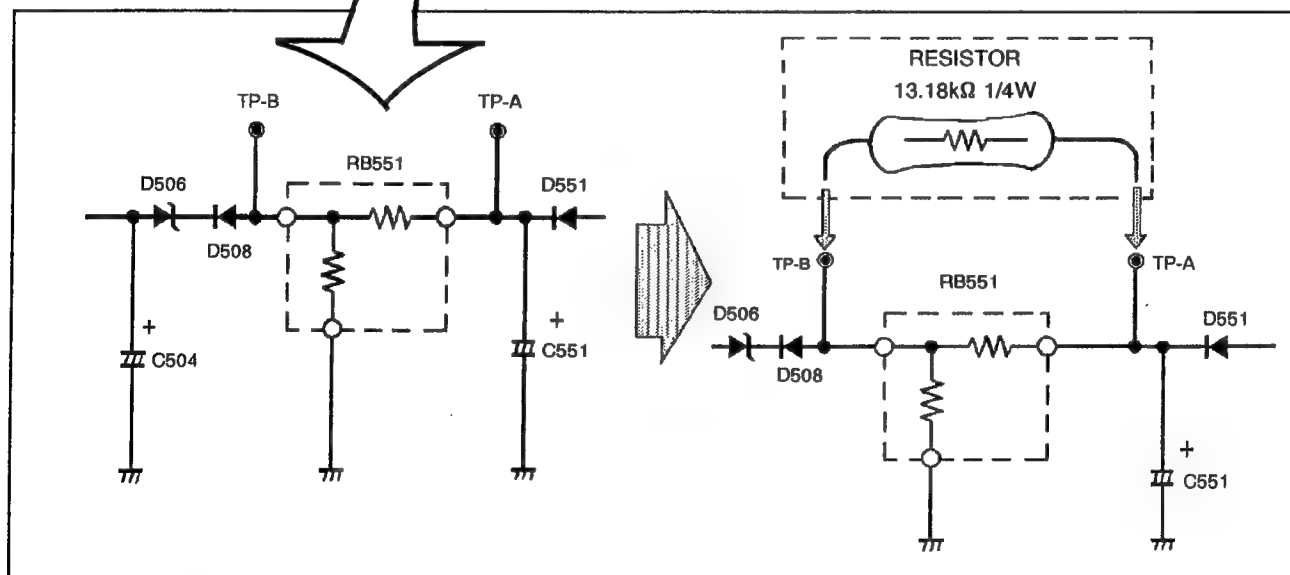

Fig. 2
- (1) Make sure that the power SW is at OFF.
- (2) As shown in Fig. 2, set the resistor 13.18kΩ 1/4W (between TP-A and TP-B).
- (3) Turn the power SW ON.
- (4) Make sure that the screen picture disappears.
- (5) Turn the power SW OFF.
- (6) Remove the resistor 13.18kΩ 1/4W from RB551 (between TP-A and TP-B).